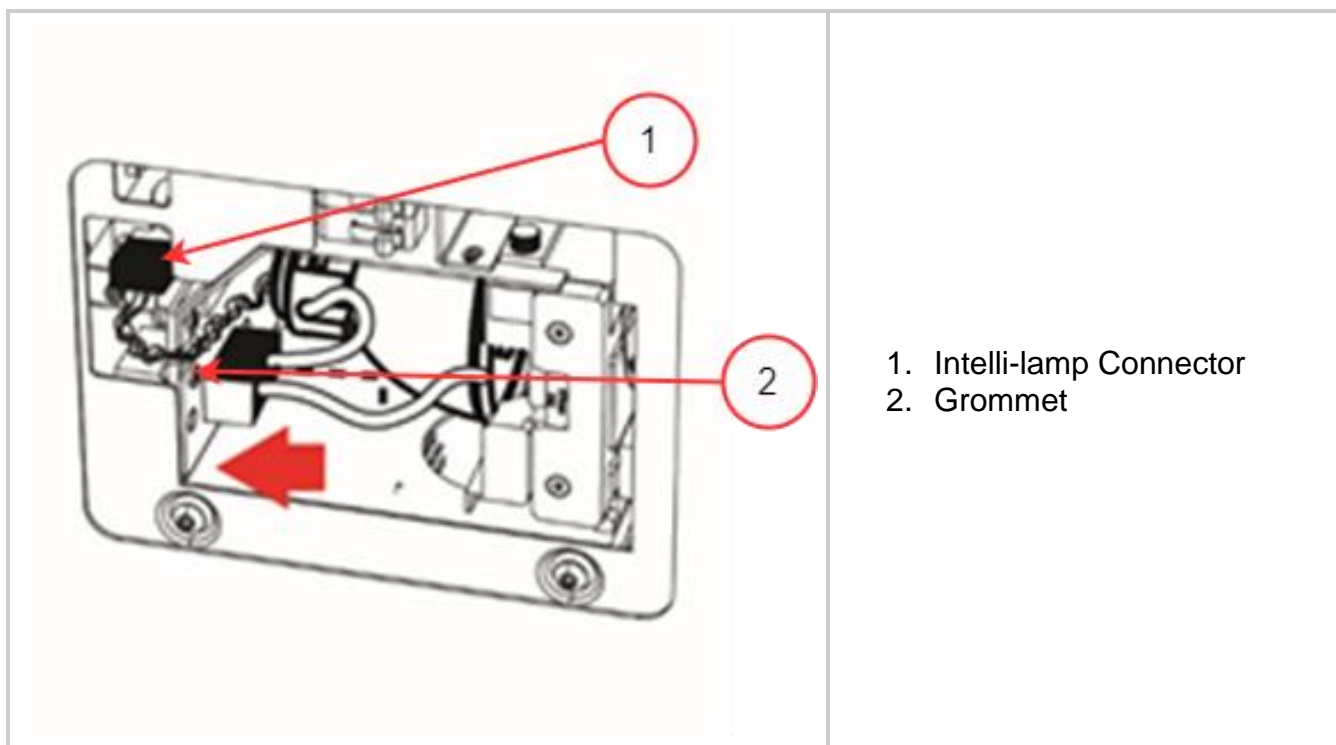

Figure 3-6 Lamp Connections
2. Tuck the Intelli-Lamp cables into the grommet shown in **Figure 3-6** or else it may obstruct the panel door from closing.